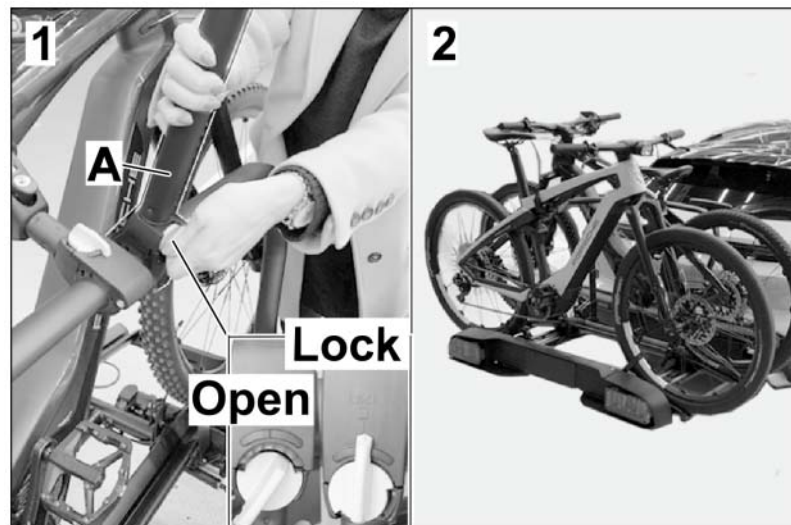

Figure 21
21. – Open the spacer (long) ⇒ *Figure 21-LHD vehicle* - and remove it. The locking strap must be removed fully in order to remove the spacer. The reason for this is the anti-theft feature, which prevents the spacer from being opened when the bike is secured with the locking strap and the lock is closed. Place the second bike on the carrier in the opposite way to the first bike.